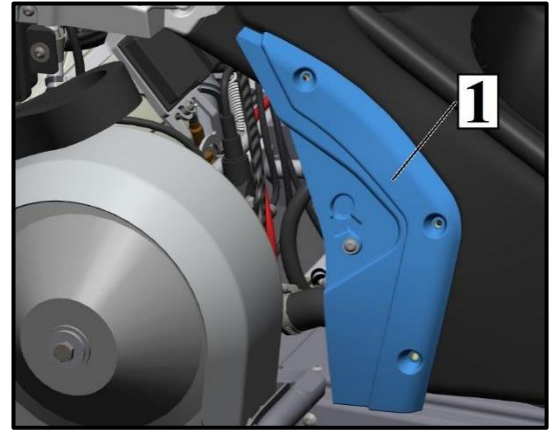

Fig. 12
Before starting to change the filter, make sure that the fuel level in the tank is lower than the fuel module (position 9 in Figure 12)
4. Remove the left plastic cover of the oil tank on the sled (pose 1, figure 12).